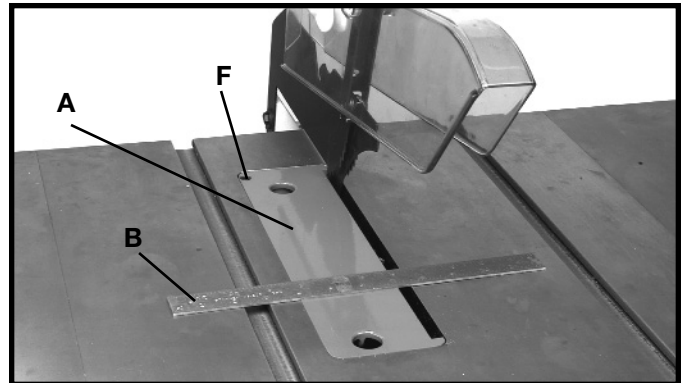

Fig. 25
13. Place a straight edge (B) across the table at both ends of the table insert as shown in Fig. 25.
If an adjustment is necessary, remove the table insert screw (F) Fig 25, and turn the adjusting screws, on the bottom of the insert, as needed, with the 3mm hex wrench supplied.